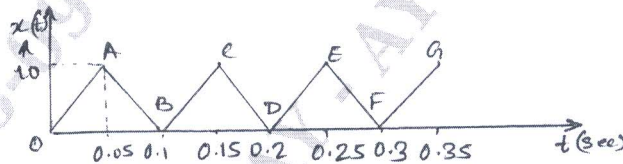

Fig. Q1 (b)
- b. A periodic motion is as shown in Fig. Q1 (b). Determine the harmonic series of this motion. (08 Marks)